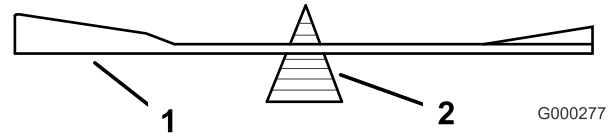
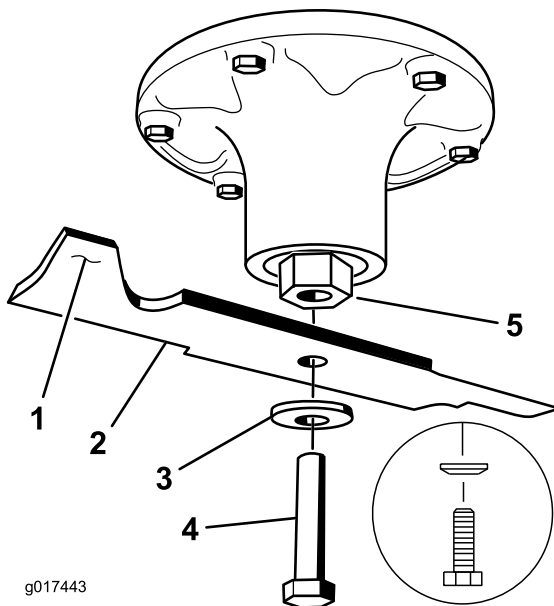

Figure 80
Figure 81
2. Check the balance of the blade by putting it on a blade balancer (Figure 80). If the blade stays in a horizontal position, the blade is balanced and can be used. If the blade is not balanced, file some metal off the end of the sail area only (Figure 81). Repeat this procedure until the blade is balanced.
2. Install the blade, spring disk and blade bolt. The spring disk cone must be installed toward the bolt head (Figure 81). Torque the blade bolt to 85-110 ft-lb (115-150 N-m).